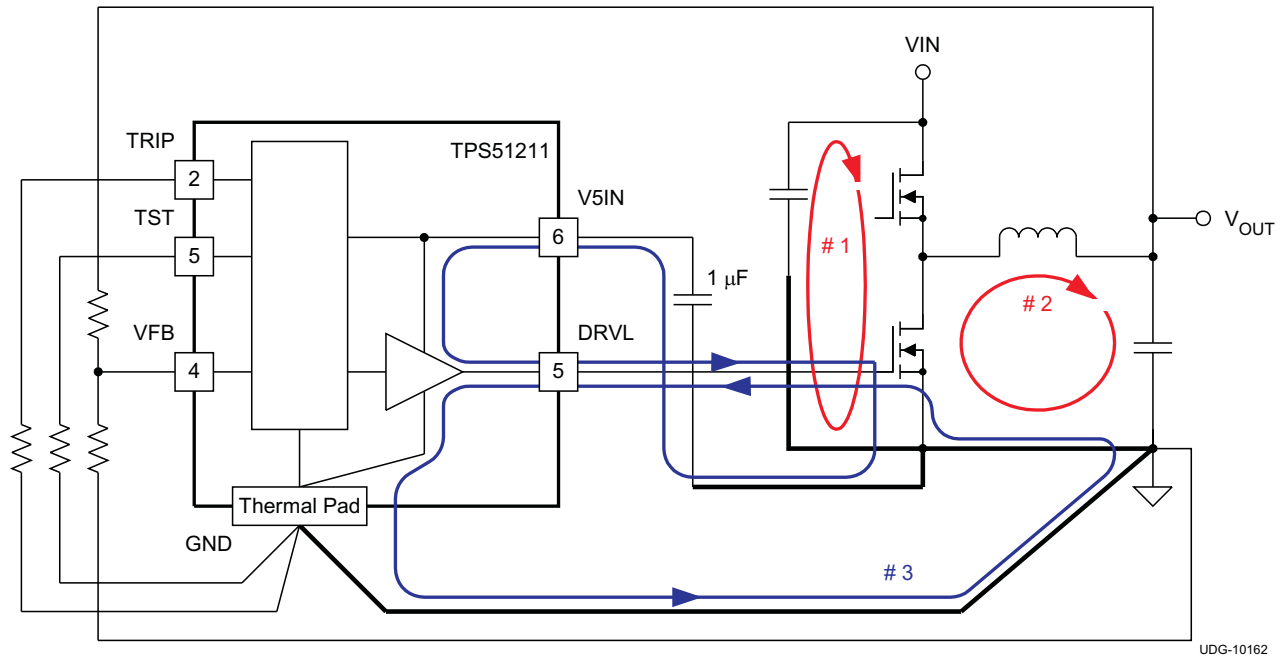

Figure 17. Ground System of DC/DC Converter Using the TPS51211
- The most important loop to minimize the area of is the path from the V_{IN} capacitor(s) through the high and low-side MOSFETs, and back to the capacitor(s) through ground. Connect the negative node of the V_{IN} capacitor(s) and the source of the low-side MOSFET at ground as close as possible. (Refer to loop #1 of Figure 17)
- The second important loop is the path from the low-side MOSFET through inductor and V_{OUT} capacitor(s), and back to source of the low-side MOSFET through ground. Connect source of the low-side MOSFET and negative node of V_{OUT} capacitor(s) at ground as close as possible. (Refer to loop #2 of Figure 17)
- The third important loop is of gate driving system for the low-side MOSFET. To turn on the low-side MOSFET, high current flows from V_{5IN} capacitor through gate driver and the low-side MOSFET, and back to negative node of the capacitor through ground. To turn off the low-side MOSFET, high current flows from gate of the low-side MOSFET through the gate driver and GND pad of the device, and back to source of the low-side MOSFET through ground. Connect negative node of V_{5IN} capacitor, source of the low-side MOSFET and GND pad of the device at ground as close as possible. (Refer to loop #3 of Figure 17)